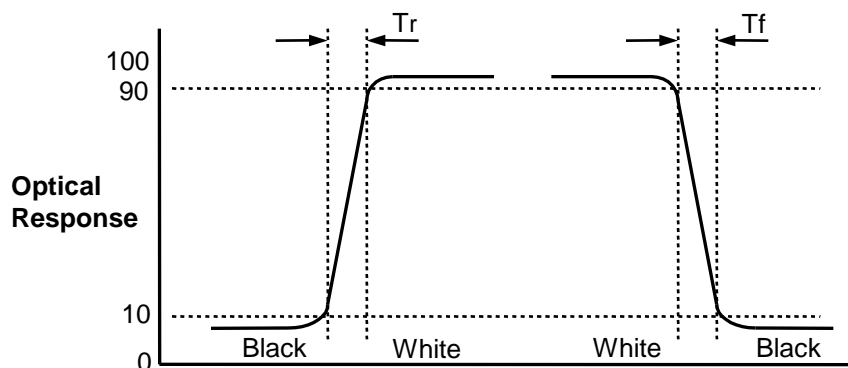

FIG. 5 Response Time
3. Response time is the time required for the display to transit from any gray to white (Rise Time,  $\text{Tr}_R$ ) and from any gray to black (Decay time,  $\text{Tr}_D$ ). For additional information see the FIG. 5.